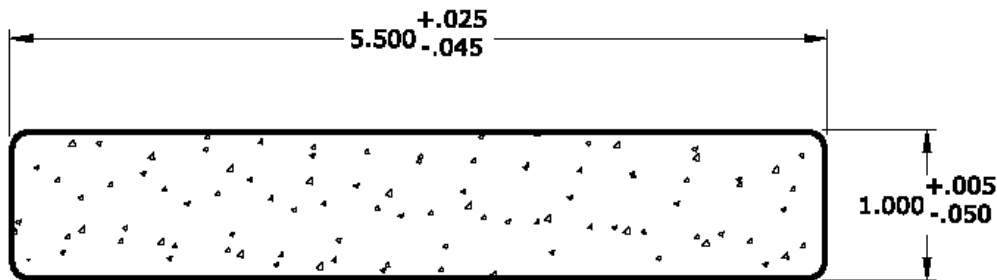

FIGURE 1 – ENDECK® STRAIGHT EDGE DECK BOARD
3.1 *Endeck*® deck boards are a solid rectangular cross-section with nominal dimensions of 1.0-inch-thick by 5.5 inches wide and are produced with either a straight edge or grooved edge profile. See Figures 1 and 2.